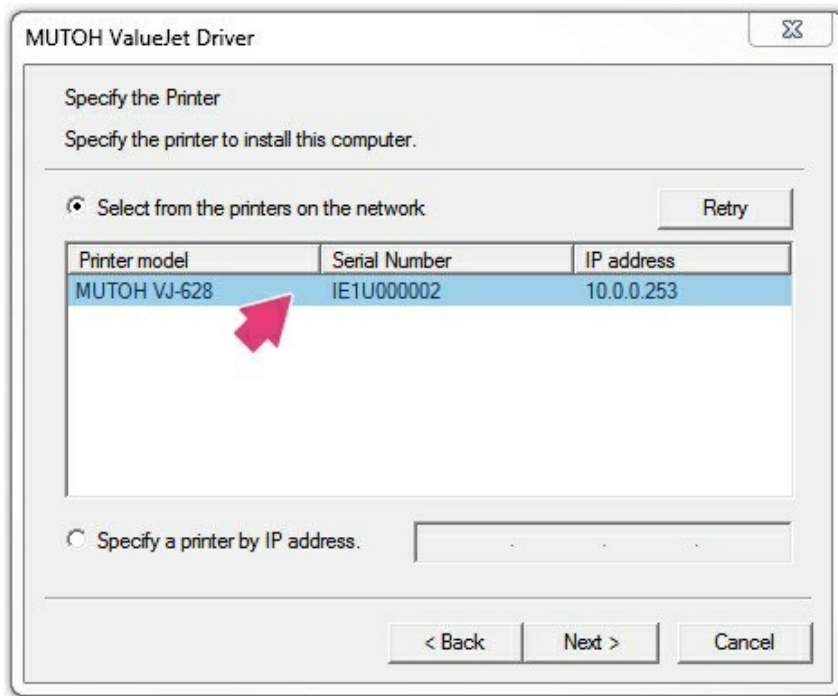

Figure 31
18. Here, you will be asked to specify the printer that you wish to set up. Select the printer by moving your mouse pointer over the listing and clicking on it. See Figure 31.